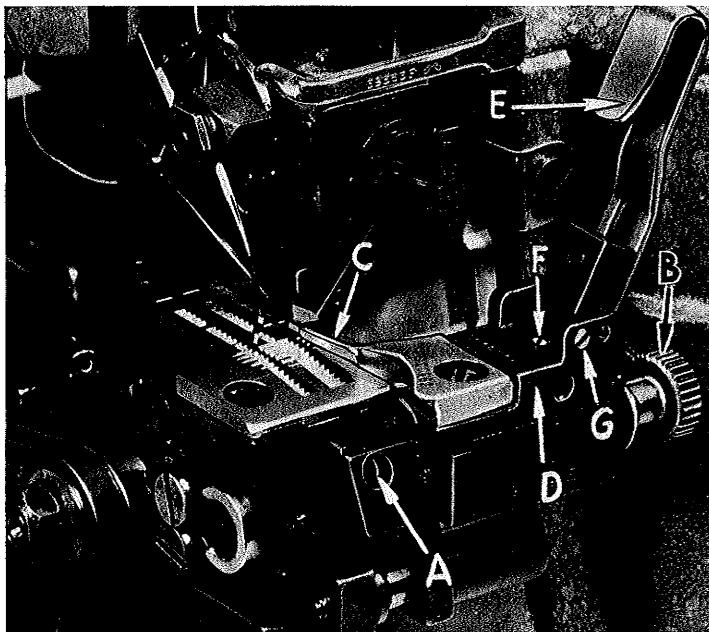

Fig. 17
Assemble the hemming guide support bracket onto the lower knife support bracket by means of screw (A, Fig. 17). With the knurled adjusting screw (B), set the edge guide (C) so that the left side of its tip is even with and parallel to the right side of the right feed slot in the throat plate.
When the edge guide tip is in this position, the front or leading edge should be slightly to the right of parallel. This adjustment can be made by positioning the stop screw located towards the front of the hinge block and edge guide support bracket (D, Fig. 17).
Under normal conditions, the edge guide is spring pressed to compensate for the differences in material thickness. For example, as in going over seams. The amount of movement and pressure applied to the edge guide tip is controlled by adjusting the screw which presses against the spring located in the hinge block and edge guide support bracket (D, Fig. 17). Removing this spring and turning the screw all the way out against the edge guide prevents movement of the edge guide.
Adjust the edge guide (C, Fig. 17) by turning the knurled adjusting screw (B) so that the stitches are located in the folded edge, yet do not show on the face of the fabric. Adjust the overhanging guide (E) so that the space between its guiding edge and the edge guide corresponds with the thickness of the material to be hemmed. Adjust the stop screw (F) for the overhanging guide so that the tip of the overhanging guide is located at the center of the edge guide vertically. If desired, the overhanging guide can be locked into position by tightening the locking screw (G) located in the hinge block and edge guide support bracket (D).